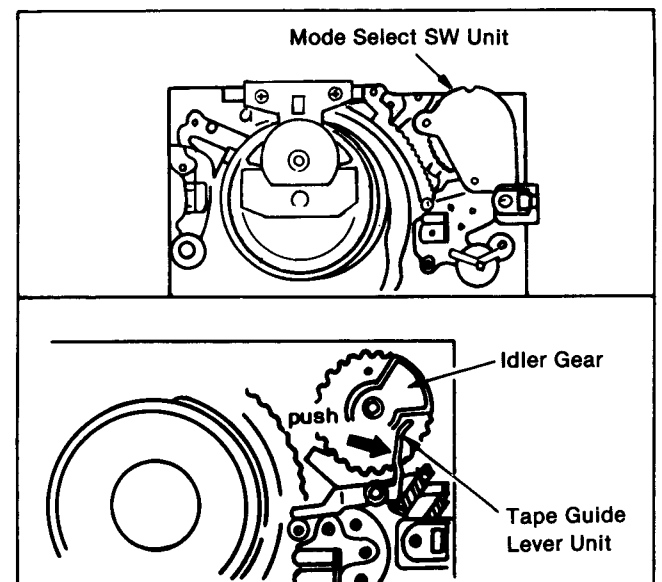

Fig. M11
- (3) Remove the Cassette Up Holder, LP Head Amp, head Amp Holder and Mode Select Switch Unit.
- (4) Take out the Idler Gear while pushing on the Tape Guide lever Unit unit until it clears the Idler Gear Teeth as shown in Fig. M11.